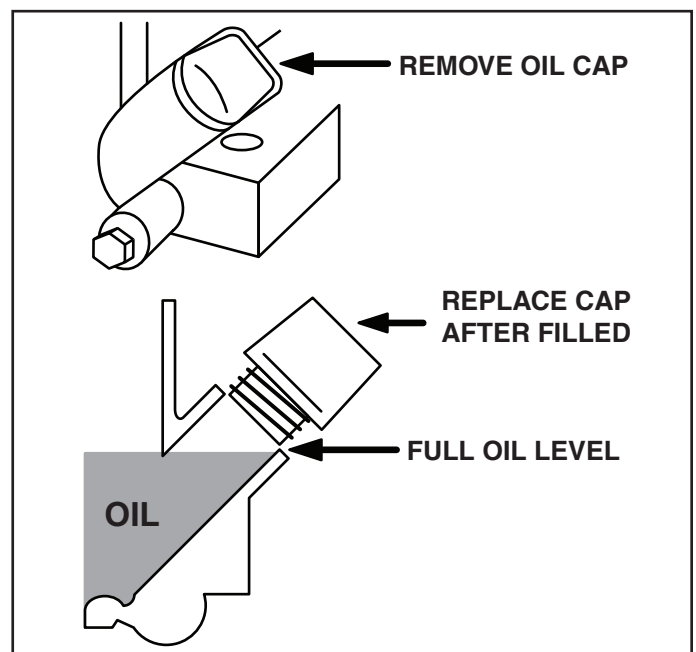

FIGURE 35
- Check **oil level** before each use. Maintain engine oil at level shown in figure 35 below.